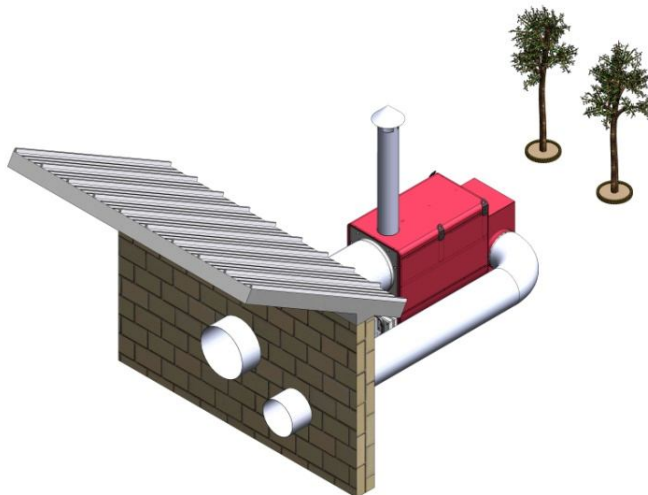

Fig. 3.8.4 - Air ducting with recirculation
- In case of outdoor installation, air from the heated area can be recirculated through the heater, for a more efficient performance (Fig. 3.8.4).